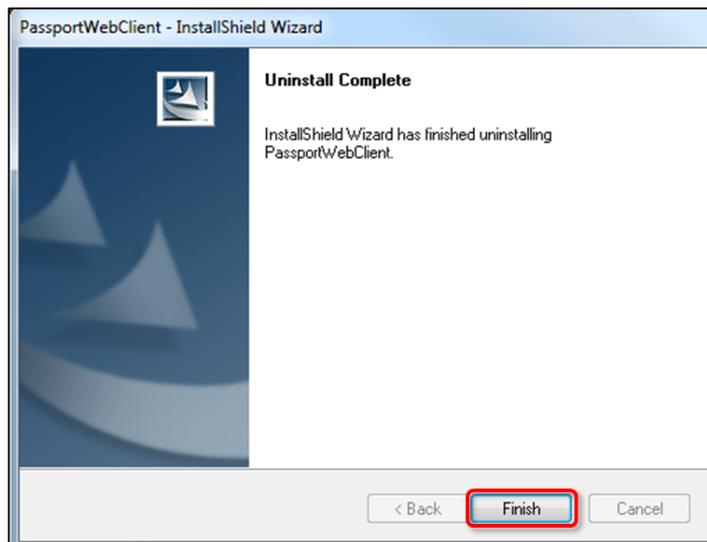

Figure 16: Confirming the Driver is Uninstalled
6. Click **Finish**. See Figure 16.